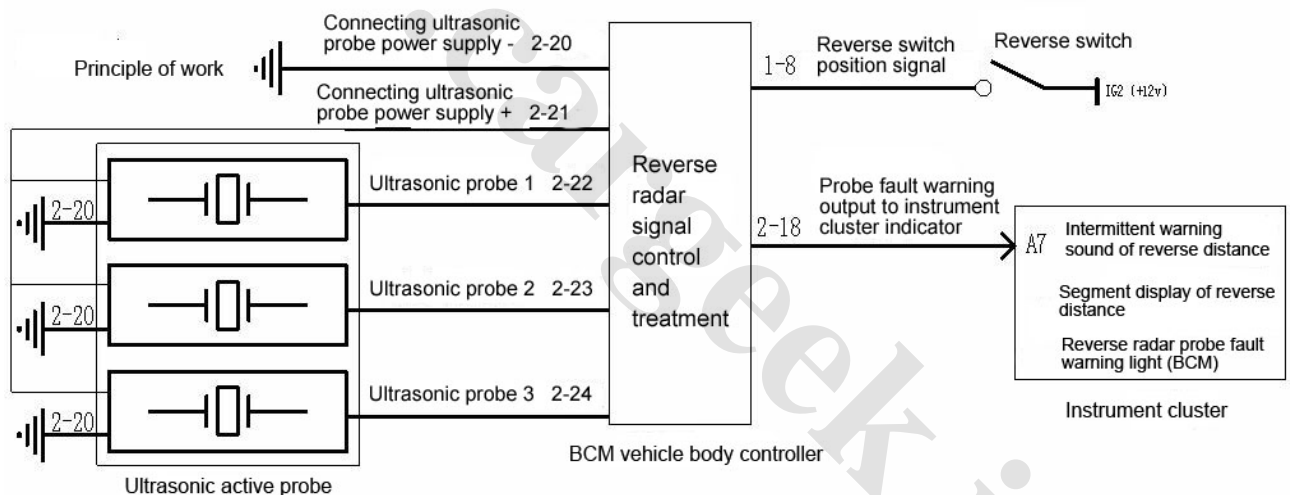

Fig. 4-115
(1) Check circuit as shown in Fig. 4-115
(1) Check circuit: see Fig. 4-115
(2) Check step